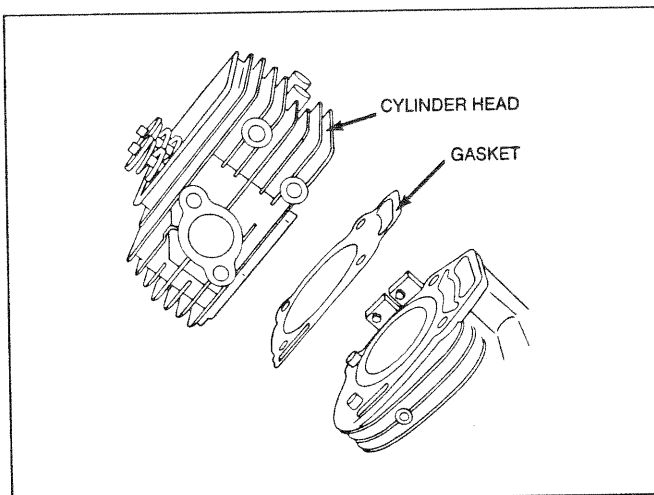

Figure 95. Cylinder Head Installation
- Position gasket and head on alignment dowels (Figure 95).